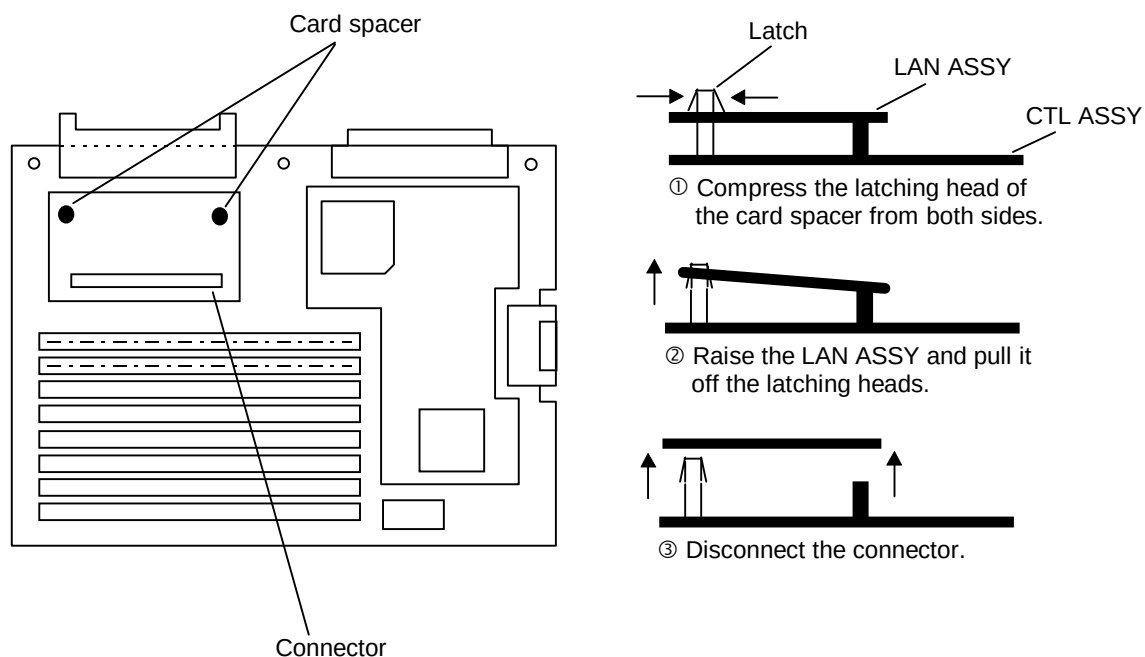

Figure 14.1 Replacing LAN ASSY (1)
- ② Open the side covers and remove the CTL ASSY. (See MK-REP0160.)
③ Pinch the latching heads of card spacers with needle-nose pliers etc. , then pull the LAN ASSY up with care not to touch with surrounding parts. (See Figure 14.1.)